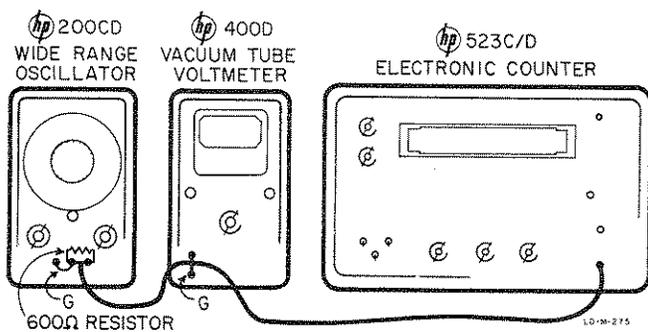

Figure 5-4. Calibration Test Setup
b. Connect the Model 200CD to an ac voltmeter and a frequency measuring device (counter or frequency standard) as shown in figure 5-4.
a. Switch Model 200CD RANGE to X100. Connect the equipment as shown in figures 5-4 and 5-5.
a. Connect the Model 200CD to an ac voltmeter and an electronic counter as shown in figure 5-4. Substitute an ac transistor voltmeter for the ac electronic voltmeter in figure 5-4.